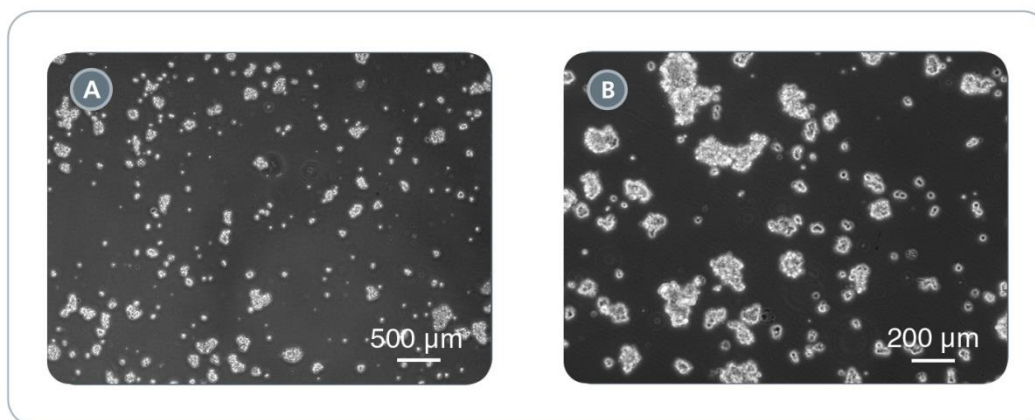

Figure 9. Effect of ReLeSR™ on Human Pluripotent Cells Cultured in TeSR™-E8™
Note: Optimal dissociation time may vary depending on the cell line used; when passaging a cell line with ReLeSR™ for the first time, the optimal dissociation time should be determined (see Figure 9 and section 8.0).
8. Transfer the detached cell aggregates to a 15 mL conical tube using a 5 mL serological pipette (e.g. Catalog #38003). Cell aggregates should be appropriately sized for plating (mean aggregate size of approximately 50 - 200 µm; see Figure 9).